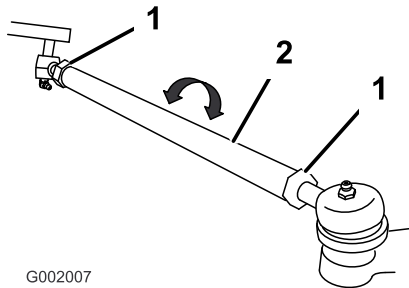

Figure 61
5. If the measurement does not fall within the specified range, loosen the jam nuts at both ends of the tie rods (Figure 61).